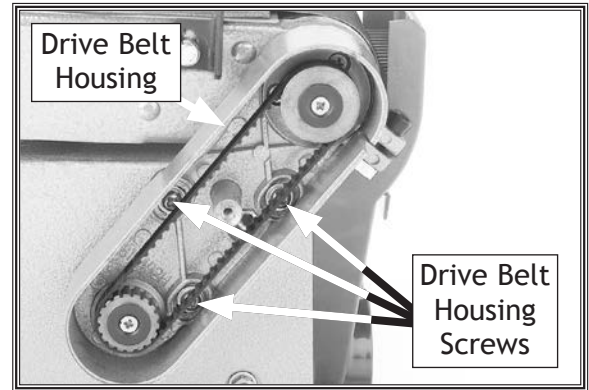

Figure 30. Example of drive belt housing screws.
2. Remove drive belt cover plate (see **Figure 30**).
3. Loosen (3) belt housing screws shown in **Figure 30** to relieve tension on drive belt.